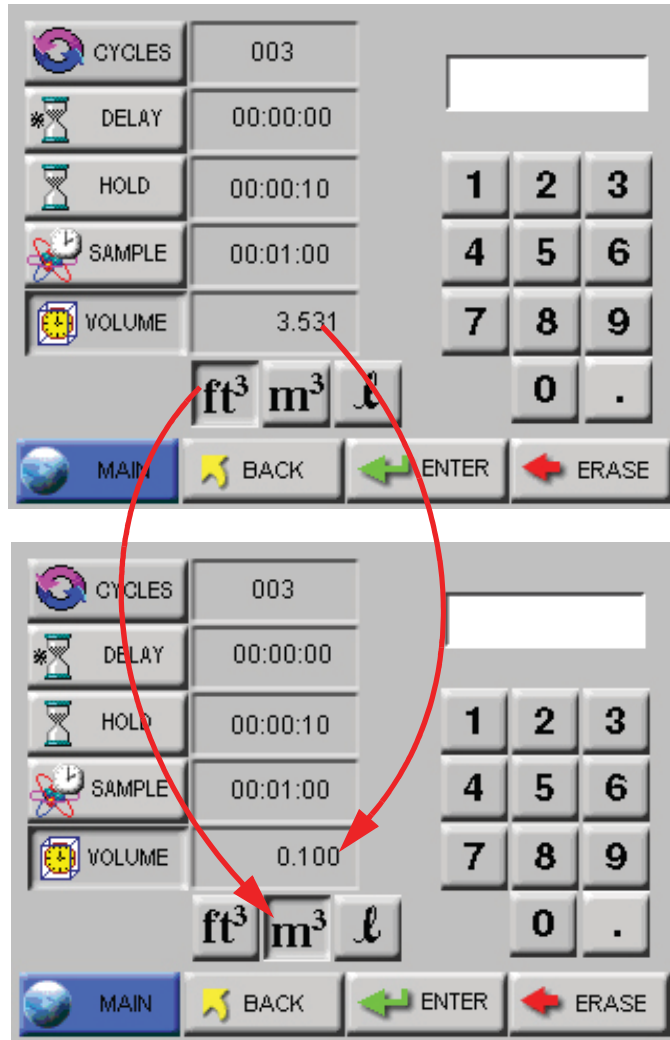

Figure 4-17 Changing Sample Volume unit of measure
- **SAMPLE VOLUME:** Instead of selecting a specific Sample Time, the instrument can be set to measure a specific Sample Volume in cubic feet (ft^3), cubic meters (m^3) or liters (l). When this is set, the corresponding Sample Time will automatically be set. See Figure 4-17.